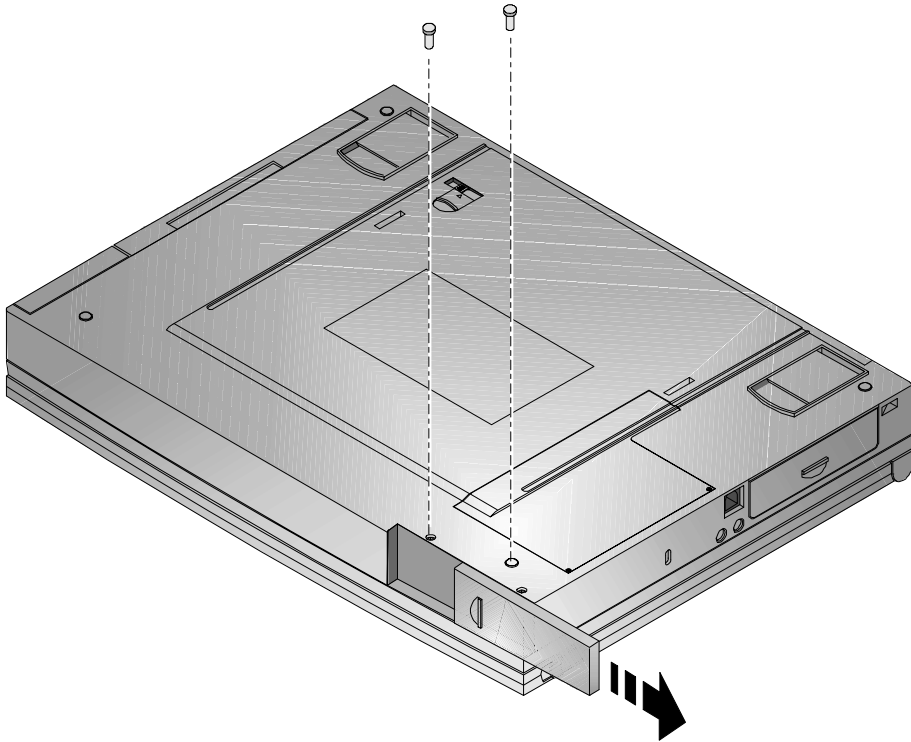
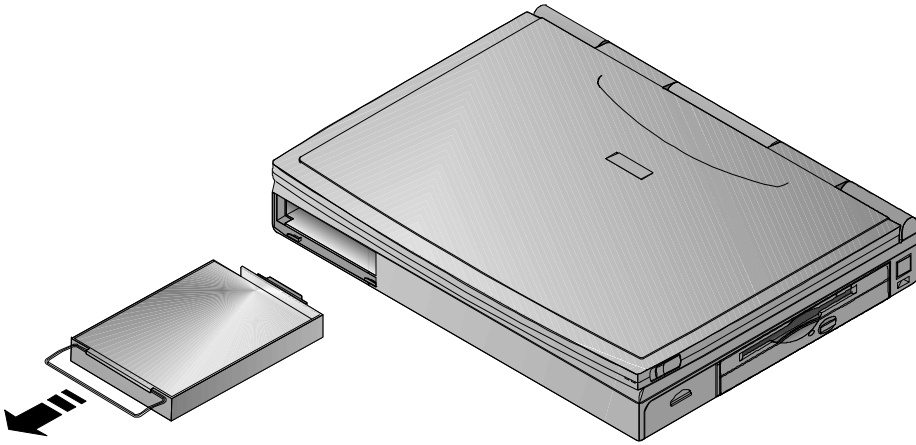

Figure 6-8: Removing the HDD (step 1)
Figure 6-9: Removing the HDD (step 2)
Eventually you may find that your notebook's HDD space is limiting and you wish to upgrade to a larger capacity HDD to provide additional hard disk space. Please contact your Digital authorized notebook dealer for purchasing information. The installation of an additional HDD is relatively simple. Please refer to figure 6-8 and figure 6-9.
2. There are two Philips head screws located on the bottom of the notebook. They secure the HDD into the unit and prevent it from being damaged from vibrations. Remove these two screws. (Figure 6-8)
3. Slide the HDD module plastic cover in the direction of the arrows shown in figure 6-8.
4. Gently remove the HDD from its housing, by pulling on its handle in the direction of the arrows shown in figure 6-9.